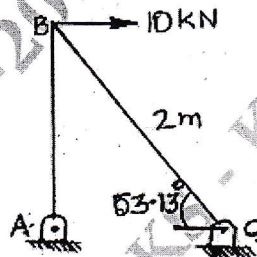

Fig. Q6 (b)
- b. A truss is subjected to a force of 10 kN as shown in Fig. Q6 (b). Determine (i) Displacements and forces at points A, B and C (ii) Local forces on the member AB and (iii) Stress induced in the member BC. Take Young's modulus for the material of the truss as $E = 210 \text{ GPa}$ and cross sectional area of each truss member as $A = 600 \text{ mm}^2$. (14 Marks)